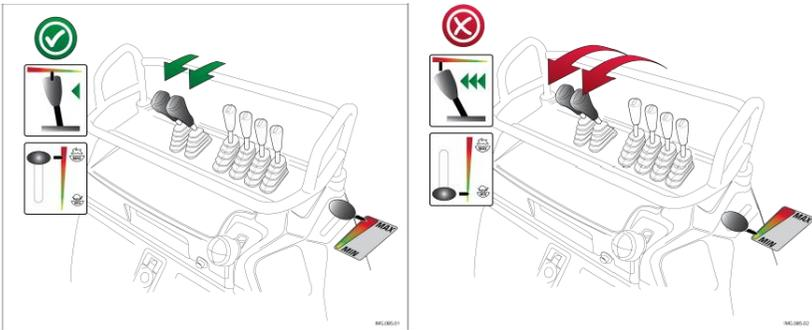

fig. 19 – Motor regimen going downhill
- On high slope ground is necessary to work with high regimen of motor (as the slope) minimizing the opening of drive levers (see fig. 19); otherwise could be verify cavitation problems and missing the “engine-brake” effect (the hydraulic motors are forced by the slope and they function like a pump): if the machine increase the speed “alone”, release the drive levers.